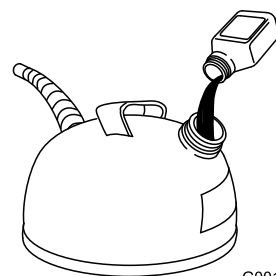

Figure 12
2. Add two-cycle oil to the gasoline according to the chart below (Figure 12):